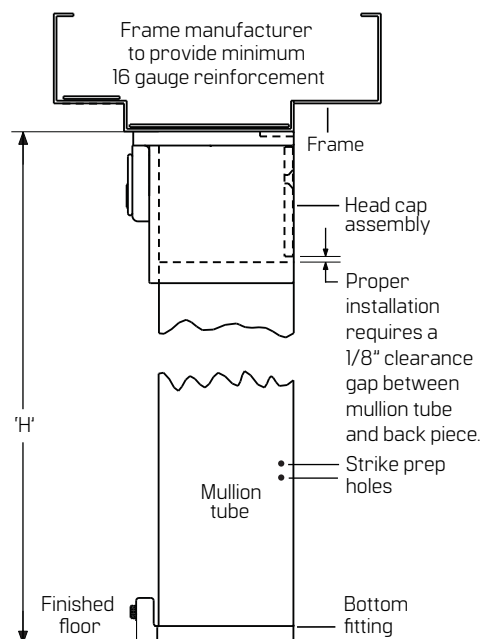

Figure 8 Determining length of mullion tube, KR unit shown
- Measure the distance 'H' as shown in **Figure 8**.